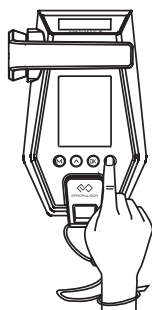

Figure 4-3
Step3: Press and hold (≥ 2 secs) the "  " button to power on the remote control (Figure 4-3).